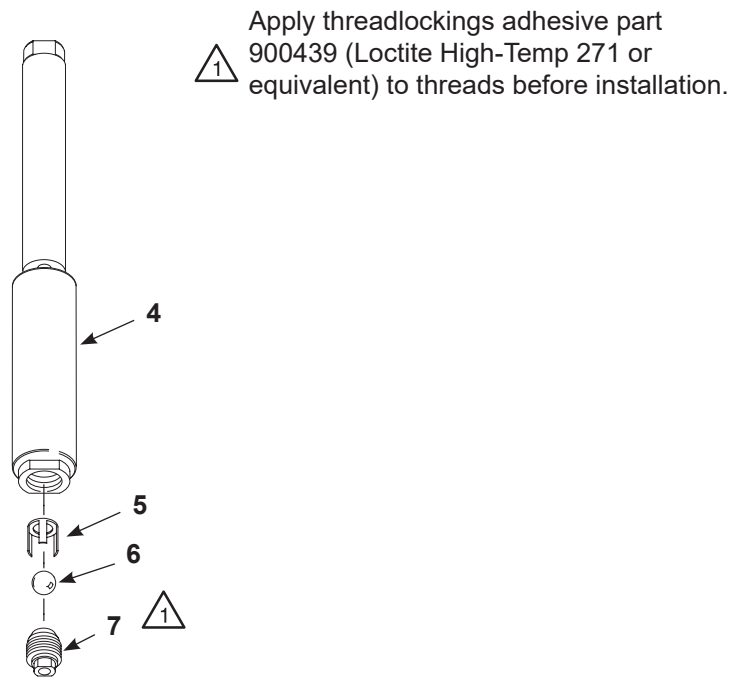

Figure 7-4 Plunger Disassembly (Step 8) and Assembly
8. See Figure 7-4. Place a wrench on the flats at the top of the plunger. Unscrew the pressure check seat (7) from the bottom of the plunger. Remove the ball (6) and cage (5) from the plunger with needle nose pliers, if necessary.
See Figure 7-4 on page 7-5.